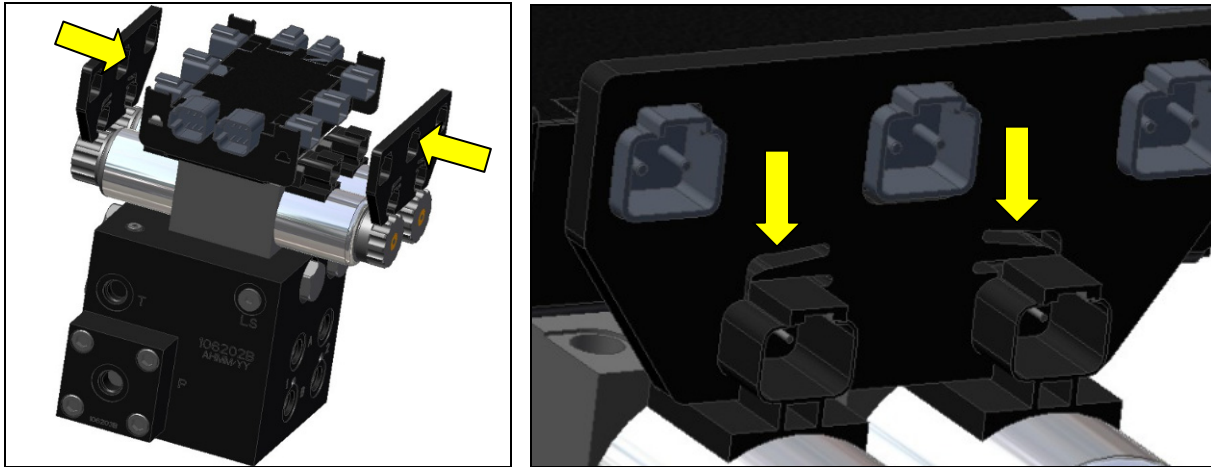

Figure 26: Valve Module Bracket Installation
3. Place the valve module between the valve coils. Slide a valve mounting bracket over the connectors of the valve module and the valve coil connectors. This may require flexing the plastic bracket slightly (Figure 26).